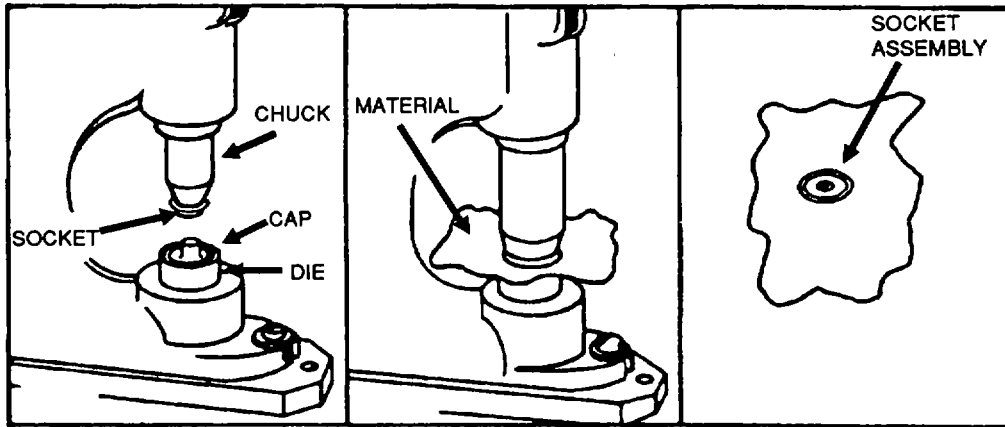

Figure 2-4A. Seating A Snap Fastener Typical (Socket Assembly).
- a. Repair. Repair a loose snap fastener by reseating the fastener on a hand- or foot-operated press (Figures 2-4A and B) as follows: